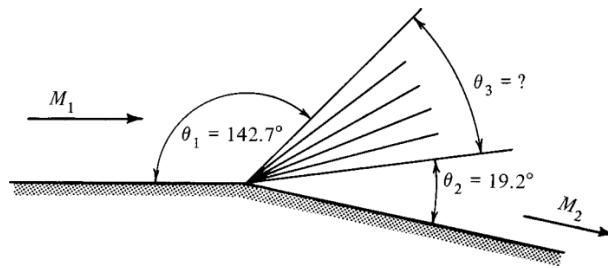

Figure P8.2
- 8.2** A Schleiren photo of the flow around a corner reveals the edges of the expansion fan to be indicated by the angles shown in Figure P8.2. Assume that  $\gamma = 1.4$ .
(a) From Figure P8.2, we find  $\theta_1 = 142.7^\circ$ ,  $\theta_2 = 19.2^\circ$ .